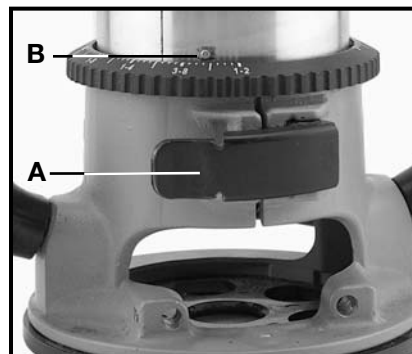

Fig. 1
(a) Open the clamp (A) Fig. 1.
2. Open the clamp (A) Fig. 1, and set the power unit in the base unit.
3. Align the lower pin of the motor unit (B) Fig. 1 with the groove in the base.